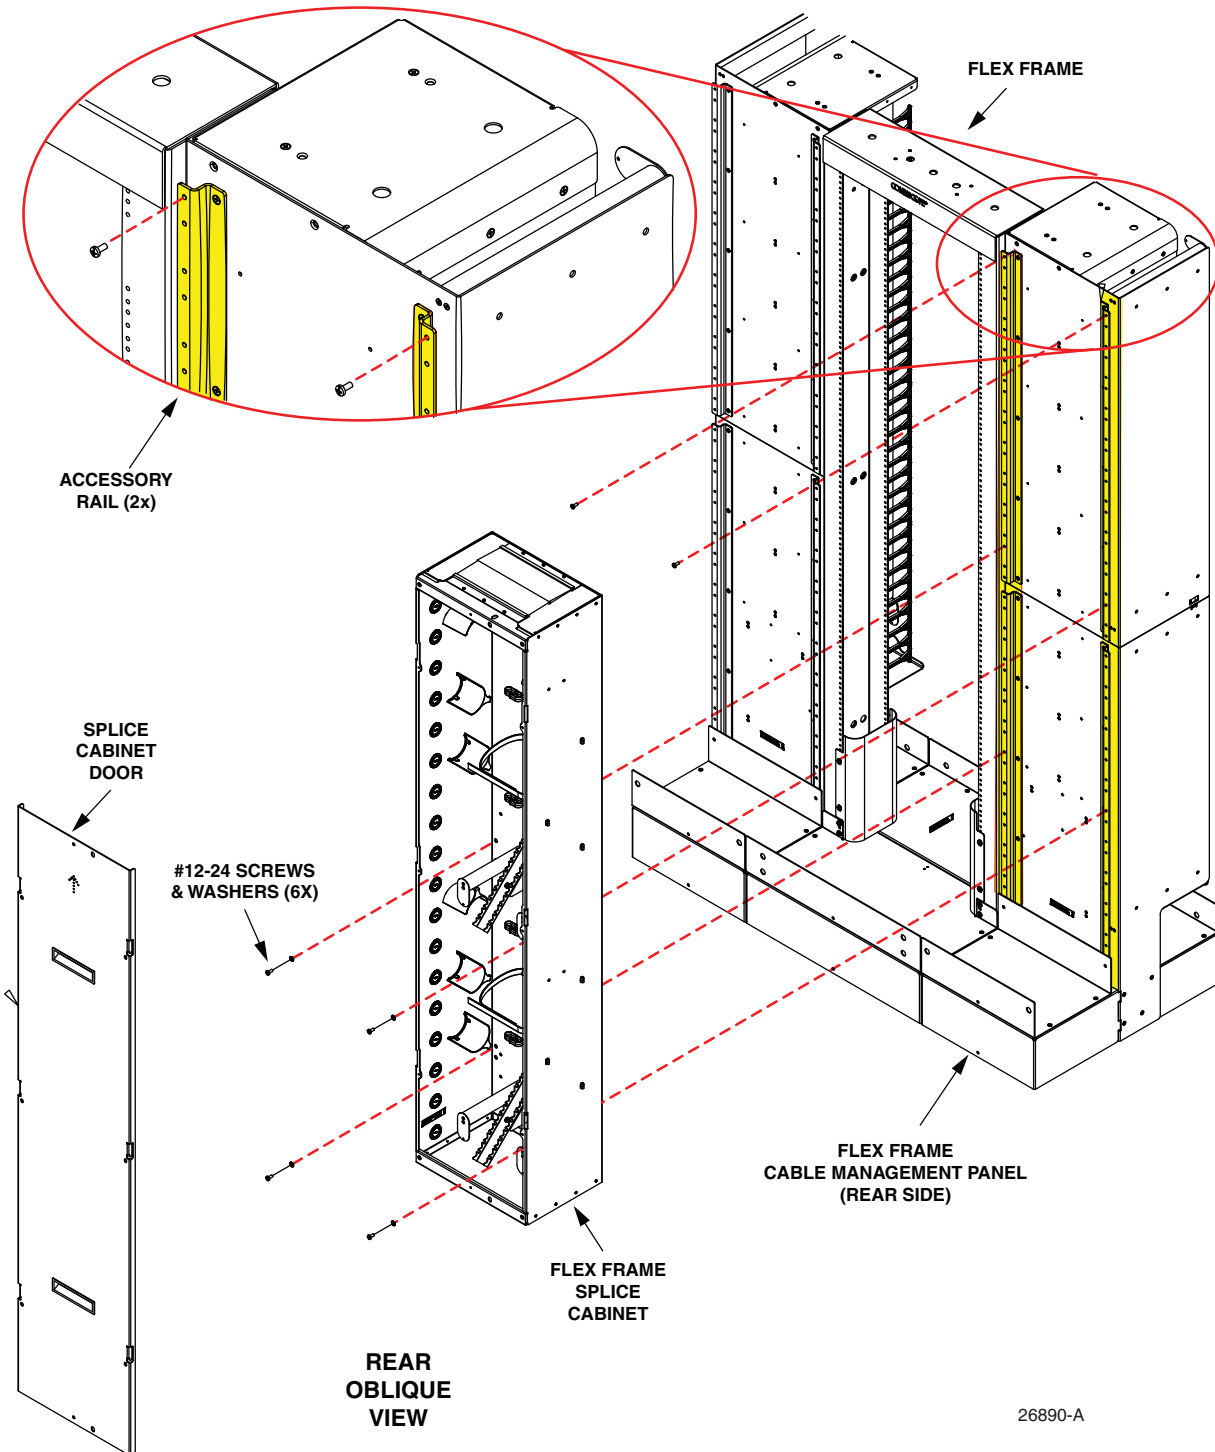

Figure 4. Mounting the Splice Cabinet on the Flex Frame
The splice cabinet is mounted on the right rear side of the cable management panel of the Flex Frame. Use the following procedure, referring to Figure 4.
2. Install two #12-24 screws without washers in the top two holes of the accessory rails on the back of the Cable Management Panel of the Flex Frame as shown in Figure 4.
4. Fasten splice cabinet to cable manager accessory rails with additional #12-24 screws (4x) and star washers (4x), as shown in Figure 4. Start all fasteners before tightening.